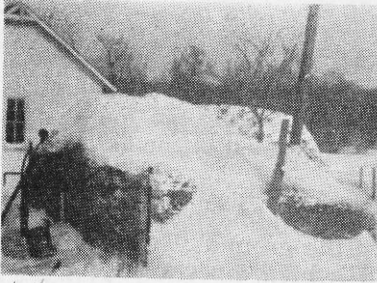

Fig. 1—Harris farm pump house showing straw banking.
The pump house on the Emerson Harris farm (see Figs. 1 and 2) is just large enough to house the pumping equipment. It is, however, rather high due to the use of a "standard" (48") tank rather than a "squat" (36") pressure tank. The entire roof is hinged and can be lifted for inspection or repairs. Also, one side of the house is removable by loosening two bolts.
2. The entire cover should be hinged or the house easily moved to allow work on the well. The cover need not extend over the walls as much as shown in Figs. 1 and 2.